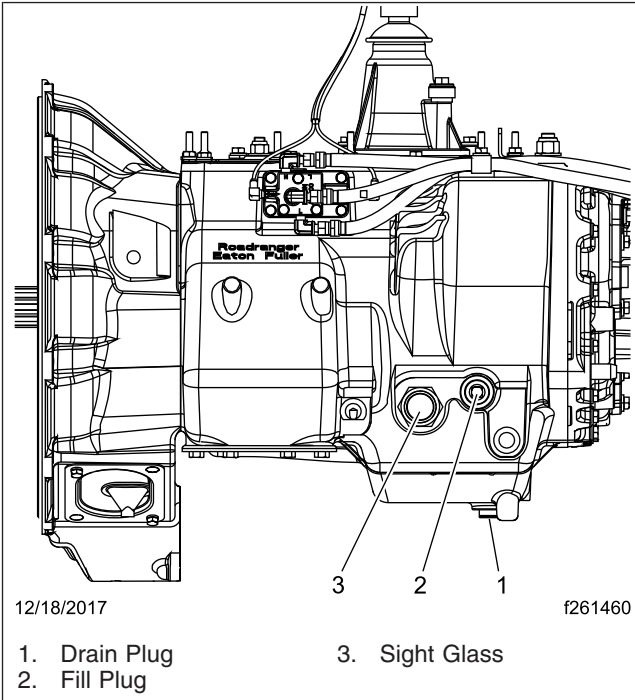

Fig. 7, Eaton Fuller Transmission With a Sight Glass
1. Clean the oil level sight glass. See Fig. 7.